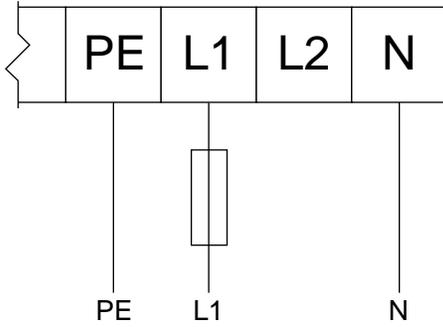

Figure 8 120 Vac 1 Phase Input/240 Vac 3 Phase Output
6. Connect the power supply wires to the power terminals in the VFD box. See Table 1 : Main Power Connections at the VFD, page 22 and Figs. 8–12, as applicable for your system.